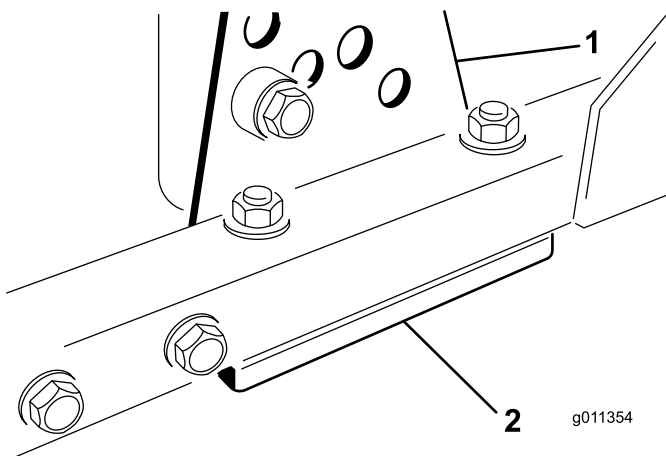

Figure 73
1. Remove the height-of-cut bracket, (front, left, or right) from the deck frame (Figure 73).
2. Adjust 1.5 mm (0.060 inch) shims and/or 0.7 mm (0.030 inch) shim between the deck frame and bracket to achieve the desired height setting (Figure 73).